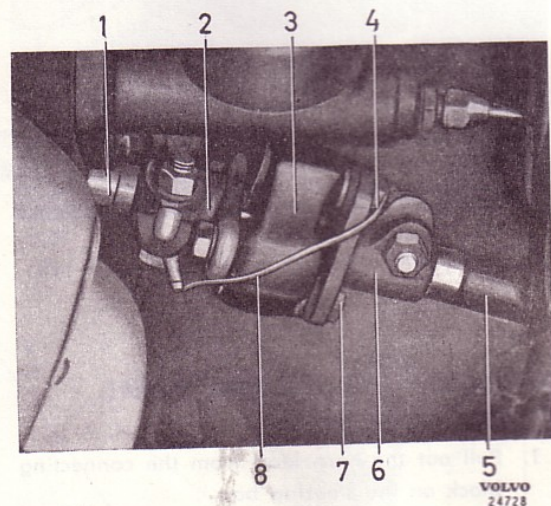

Fig. 32. Steering column coupling, P 1800.
2. Disconnect the earth lead (8, Fig. 32) and unscrew the two nuts (4 and 7).
2. Fit the clamp to the coupling disc, see Fig. 32. Do not forget the earth lead.